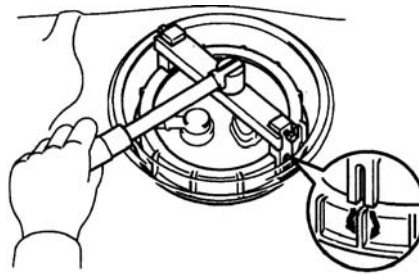

Figure 103
5. Detach fuel pump assembly with filter screen. See (Figure 103)